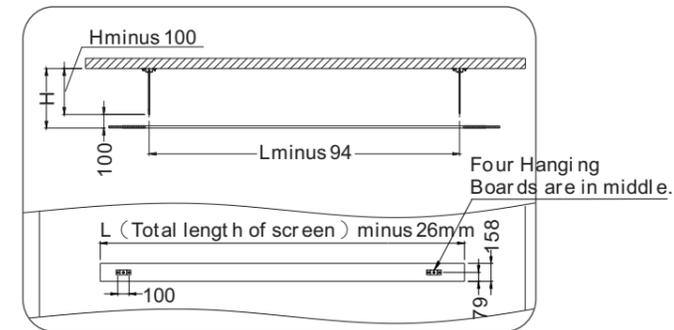

Figure 4
3.Please measure the security distance between hanging brackets (figure 4), and fix the hanging brackets on the ceiling using expansion screws (figure 5).